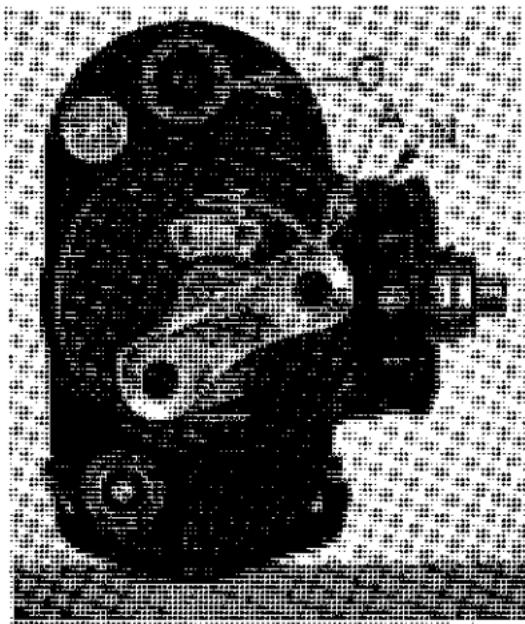

Figure 2
1. Wind the spring motor by turning the ratchet winding key A, Figure 2, to the left (counter-clockwise) until it stops (do not force it).
12. Test the correctness of the loading and threading by pressing the starting button N, Figure 2, quickly and momentarily a few times, watching to see that the leader runs through the sprockets and aperture channel and that it is being taken up by the take-up spool. Correct any errors which are discovered by this test.
14. Set the footage dial (0, Figure 2) at 96 by turning it with the thumb and finger. Start the camera and let it run until the footage dial registers zero. This is done to run through the four feet of leader which was left on the feed spool when you closed the camera. The film itself is now at the aperture and your camera is ready for use.